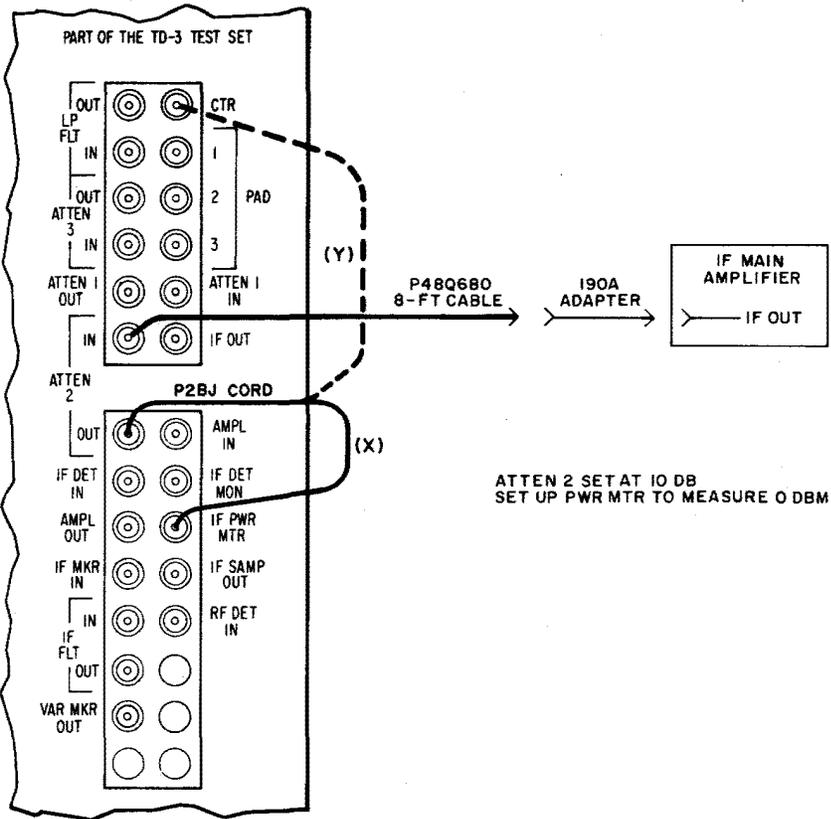
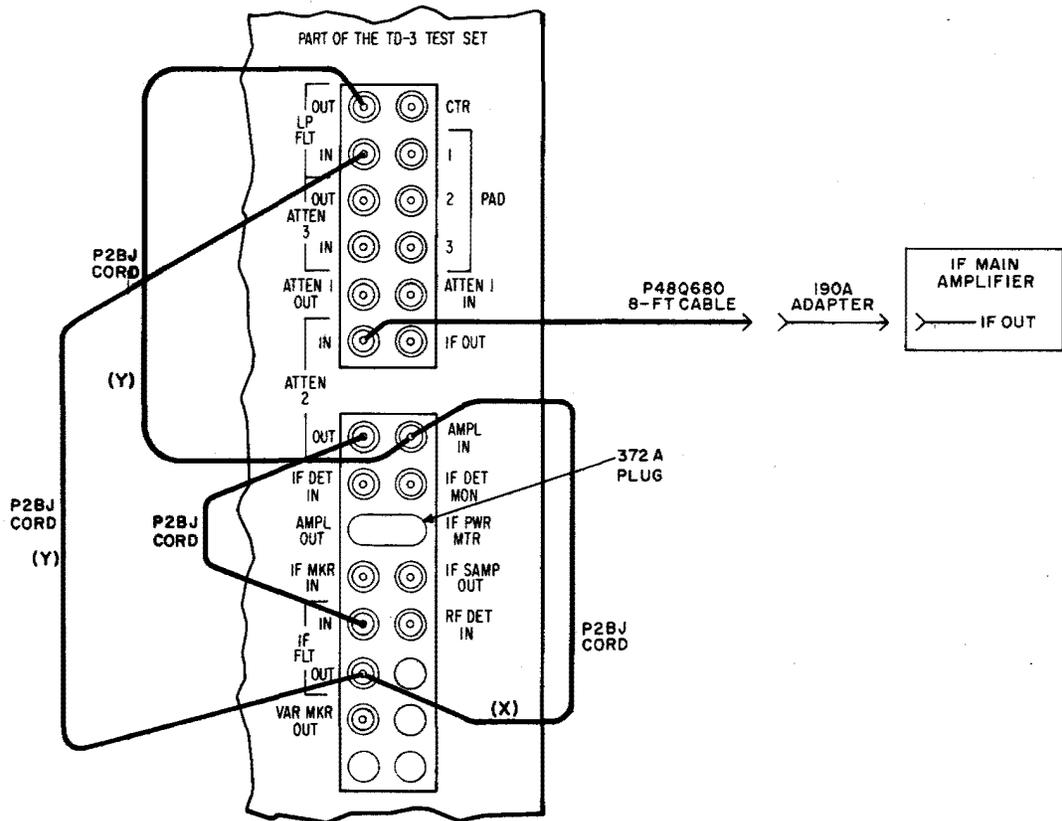

Fig. 6—IF Main Amplifier—Carrier Resupply Power and Frequency Measurement
Fig. 7—Sideband Power Measurement
| 2    | Make the connections as shown in Fig. 6, option (X).  |
| 6    | Make the connections in Fig. 6, option (Y).   |
| 9    | Make the connections in Fig. 7, option (X).  |
| 11   | Make connections in Fig. 7, option (Y).  |
- 2 Make the connections as shown in Fig. 6, option (X).
- 6 Make the connections in Fig. 6, option (Y).
**Note 1:** Using the J68392A test set, Steps 8 through 15 set the effective sideband power 35 dB below the carrier power for units equipped with option (Y) and 40 dB for units equipped with option (Z). An alternate procedure for measuring the sideband power and frequency, using a 3A or 4A FM receiver and a selective voltmeter, is provided in Steps 16 through 20.
**Note 2:** Option (Z) equips the unit with an 8.8864-MHz pilot oscillator for use with the TDAS Protection Switching System. Option (Y) equips the unit with a 9.0-MHz pilot oscillator for use with the 100A and 400A Protection Switching Systems.
- 8 If the J68387AB IF main amplifier-carrier resupply is equipped with option (Y), set ATTEN 2 for 58.8-dB attenuation. If the unit is equipped with option (Z), set ATTEN 2 for 63.8-dB attenuation.
- 9 Make the connections in Fig. 7, option (X).
- 11 Make connections in Fig. 7, option (Y).